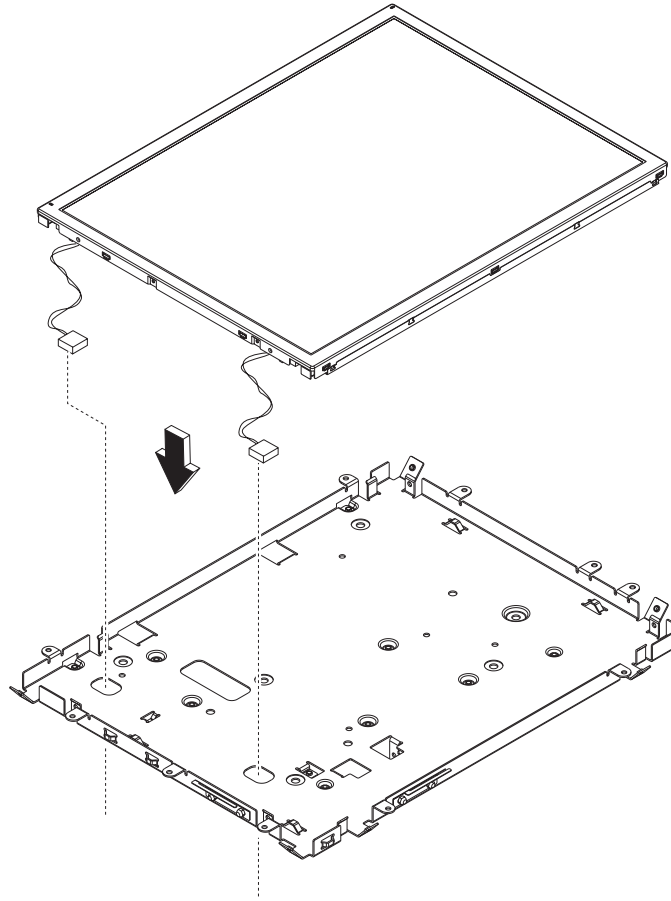

Figure 29. Replacing the LED assembly
7. To replace, see Figure 29 and follow these steps: